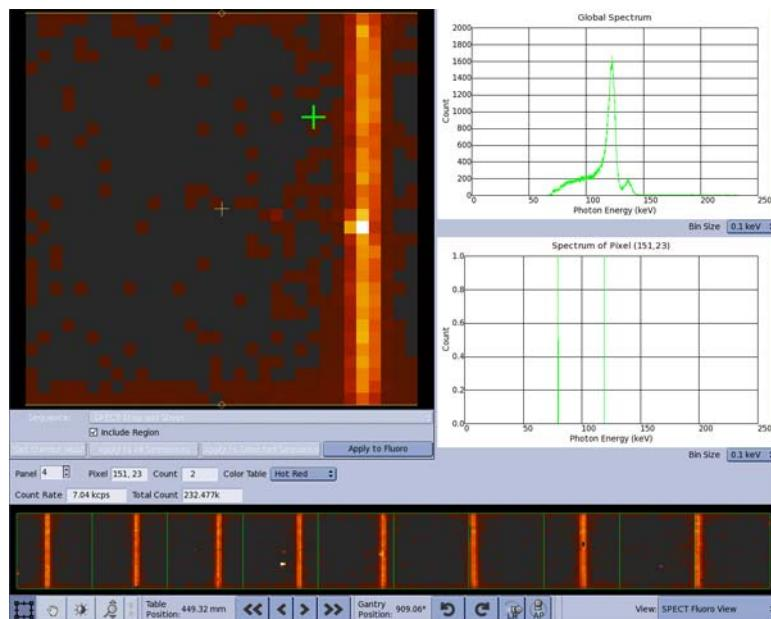

Figure 7-118
9. The viewer will show the position of the line source (Figure 7-118). On a properly calibrated system, the tip of the line source is at the midway point (vertically) of the SPECT viewer. Make note of the current table position. Use the table motion buttons at the bottom of the viewer to reposition the line source. Whenever the table is moved, click the Reset SPECT Viewer button to clear away the old image information. Once the table position is satisfactory, make note of the new table position. The difference between this position and the starting position is the amount the SPECT scan plane distance must be adjusted.